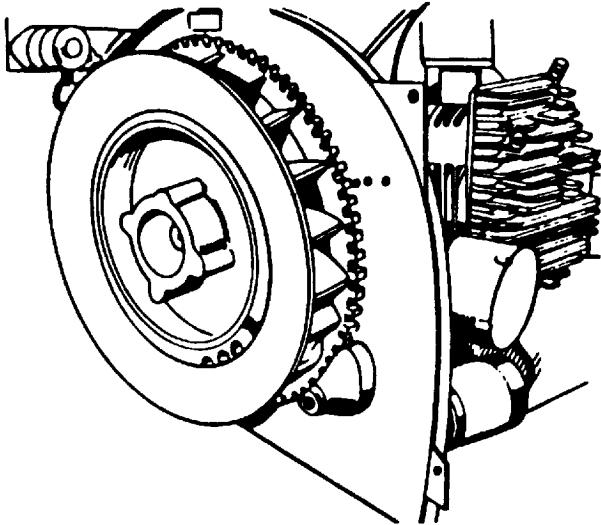

FIGURE 41. BLOWER SCROLL REMOVED
1. Slide set completely out on its rails. Remove front panel and blower scroll (Figure 41).